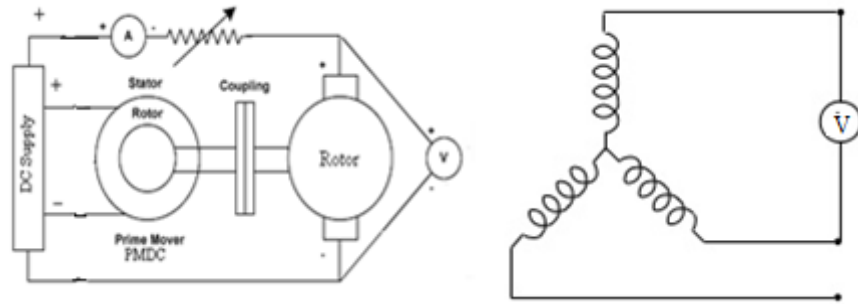

Figure 10.3. Open circuit test
Since the unsaturated core of the machine has a reluctance thousands of times lower than the reluctance of the air-gap, the resulting flux increases linearly first. When the saturation is reached, the core reluctance greatly increases causing the flux to increase much slower with the increase of the mmf. The circuit diagram for open circuit test is shown in Figure 10.3
1. Make the connection as show in Figure 10.3 carefully.